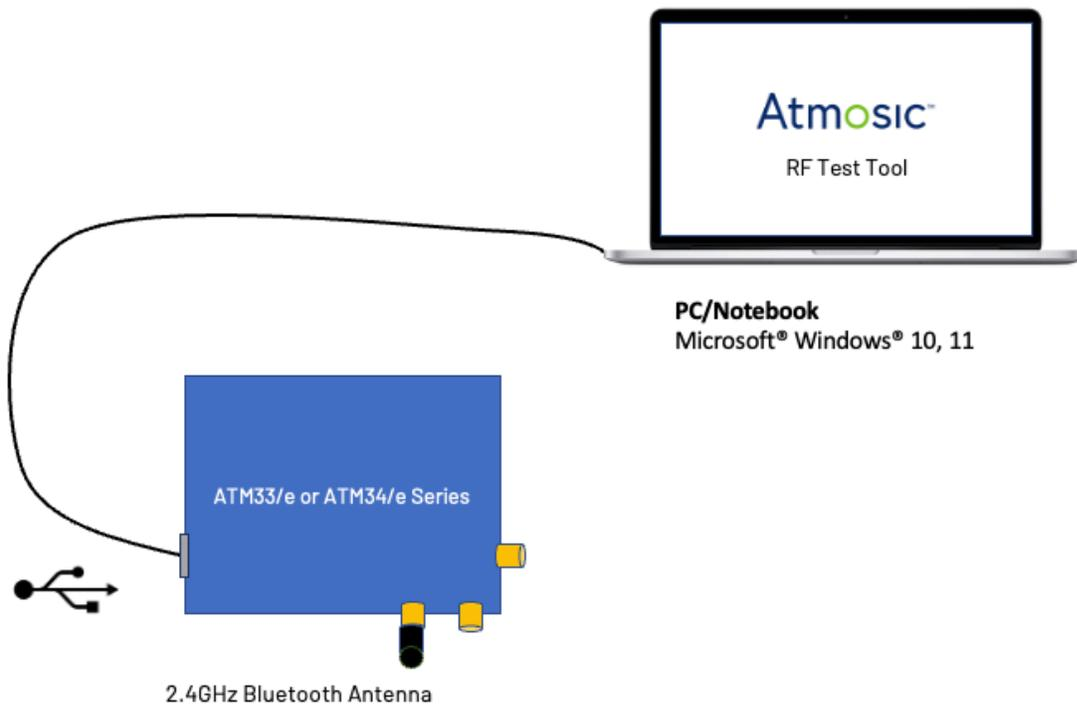

Figure 2 - RF Test Tool Hardware Environment for the ATM33/e or ATM34/e
- Figure 2 - RF Test Tool Hardware Environment for the ATM33/e
Figure 2 shows the connection setup between the PC and the ATM33/e, ATM34/e Evaluation Board (EVB).